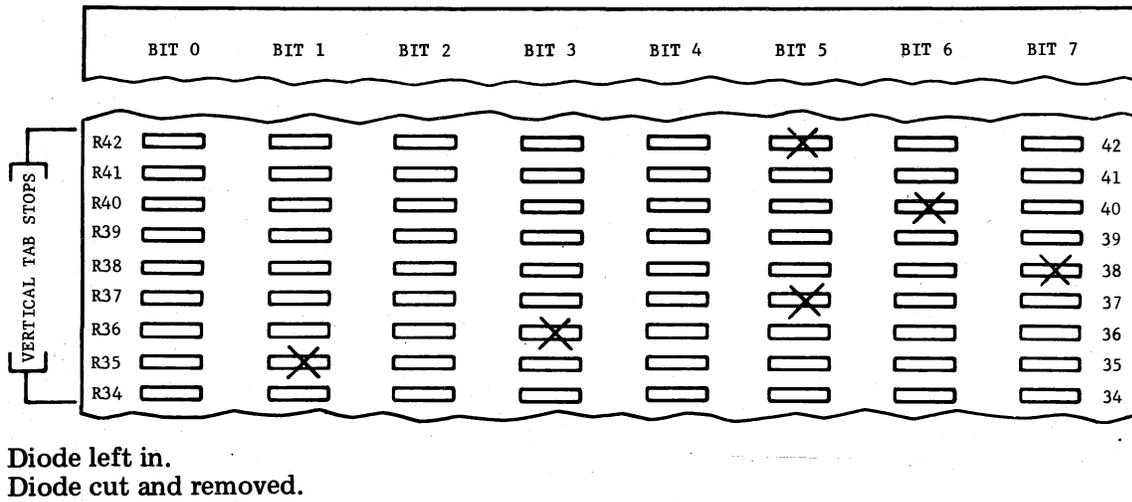

Fig. 34—Example 3: Diode Matrix Circuit Card Optioning
Example 3: Rows R34 through R42 (Fig. 34):
- (b) The example (Fig. 34) represents diode optioning for vertical tab stops at 10, 20, 30, 40, 55 and 70 lines from the start of form.